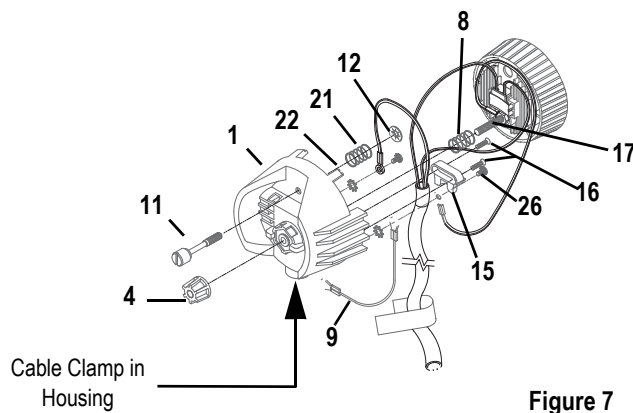

Figure 7
- Step 19: Insert the knurled head screw (11) through the housing socket casting (1) as shown in Figure 7.
- Step 20: Install the ground spring (21) onto the screw and secure it with the Southco flat retaining ring (12). Install the Southco ring with its prongs away from the casting.
Step 24: Place the compression spring (8) on the protrusion on the inside of the index hub. See Figure 7.
Step 25: Insert bolt (17) through spring (8) and through the index hub (6) of the housing socket (1), joining the two castings as shown in Figure 7. Make sure wires are not pinched between the two pieces.
Step 27: Press the two castings together firmly so the bottom of the light baffle (2) sits on top of the cable clamp (15), then install Z lamp knob (4). Hand tighten the knob all the way to the right. See Figure 7.